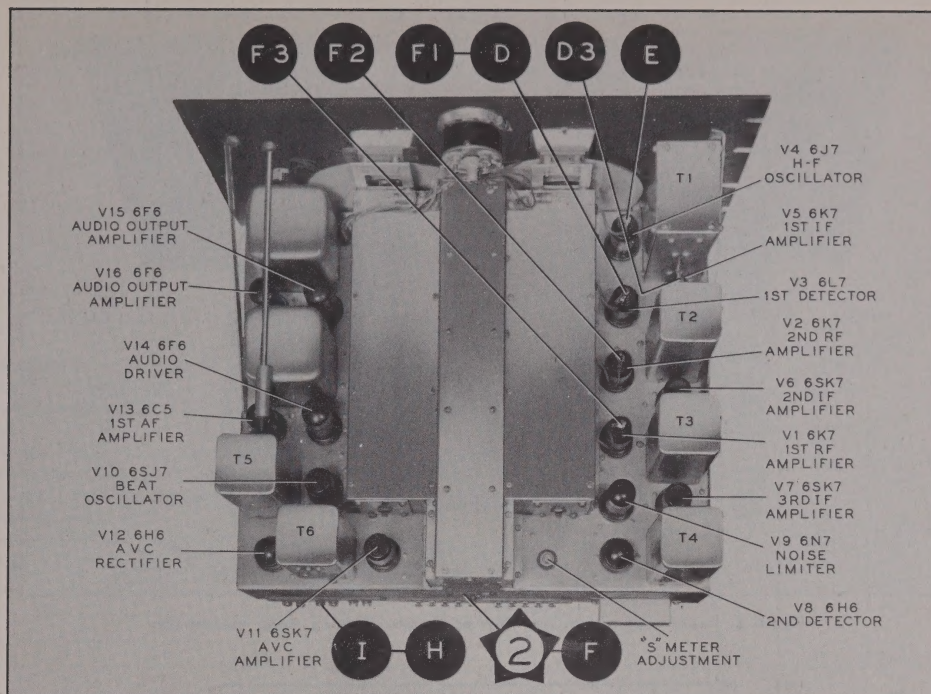
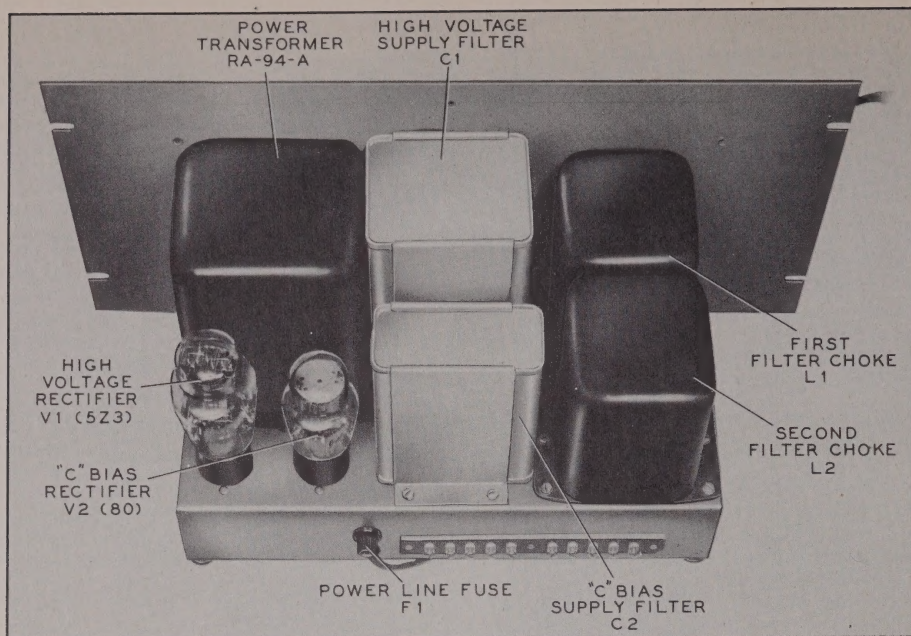

Figure 7. Radio Receiver, Top View of Chassis, Showing Major Components and the Locations of Test Points
Figure 8. Power-Supply Unit, Top View of Chassis, Showing Major Components
All of the receiver circuits are located in the receiver unit. Figure 7 shows the top view of the receiver. The power-supply unit contains all of the rectifier and power-supply components, figure 8 shows the top view of the power-supply unit.
10. Location and function of each major component on the top of the receiver chassis (refer to figure 7).
11. Location and function of each major component on the top of the power-supply unit (refer to figure 8).